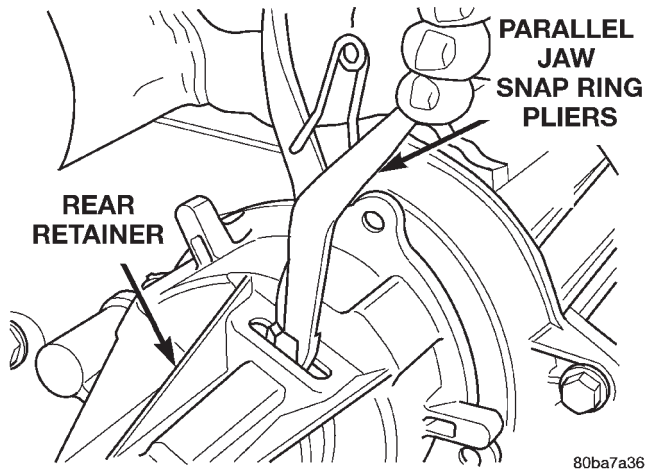
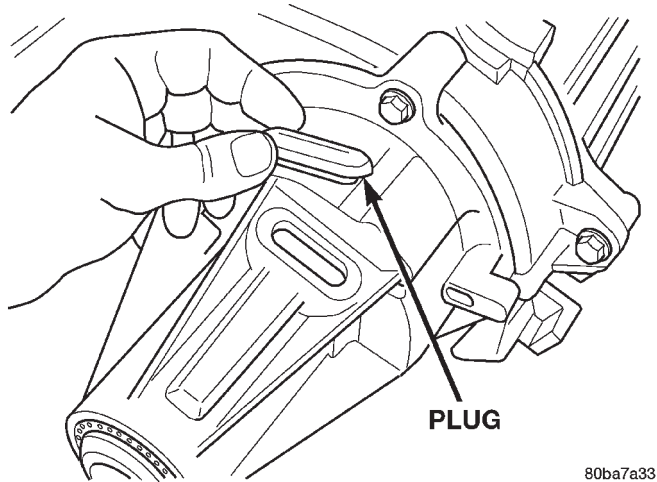

Fig. 76 Engaging Rear Bearing Locating Ring
Fig. 77 Installing Rubber Access Plug
- (9) Spread rear bearing locating ring and slide rear retainer into place on rear case (Fig. 76).
- (10) Install and tighten rear retainer bolts to 27-34 N·m (20-25 ft. lbs.).
- (11) Install rubber access plug (Fig. 77).